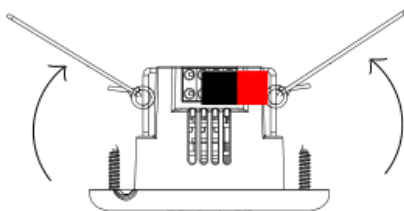

Figure 8
(4) Ceiling – mounted - See Figure 8 – 10